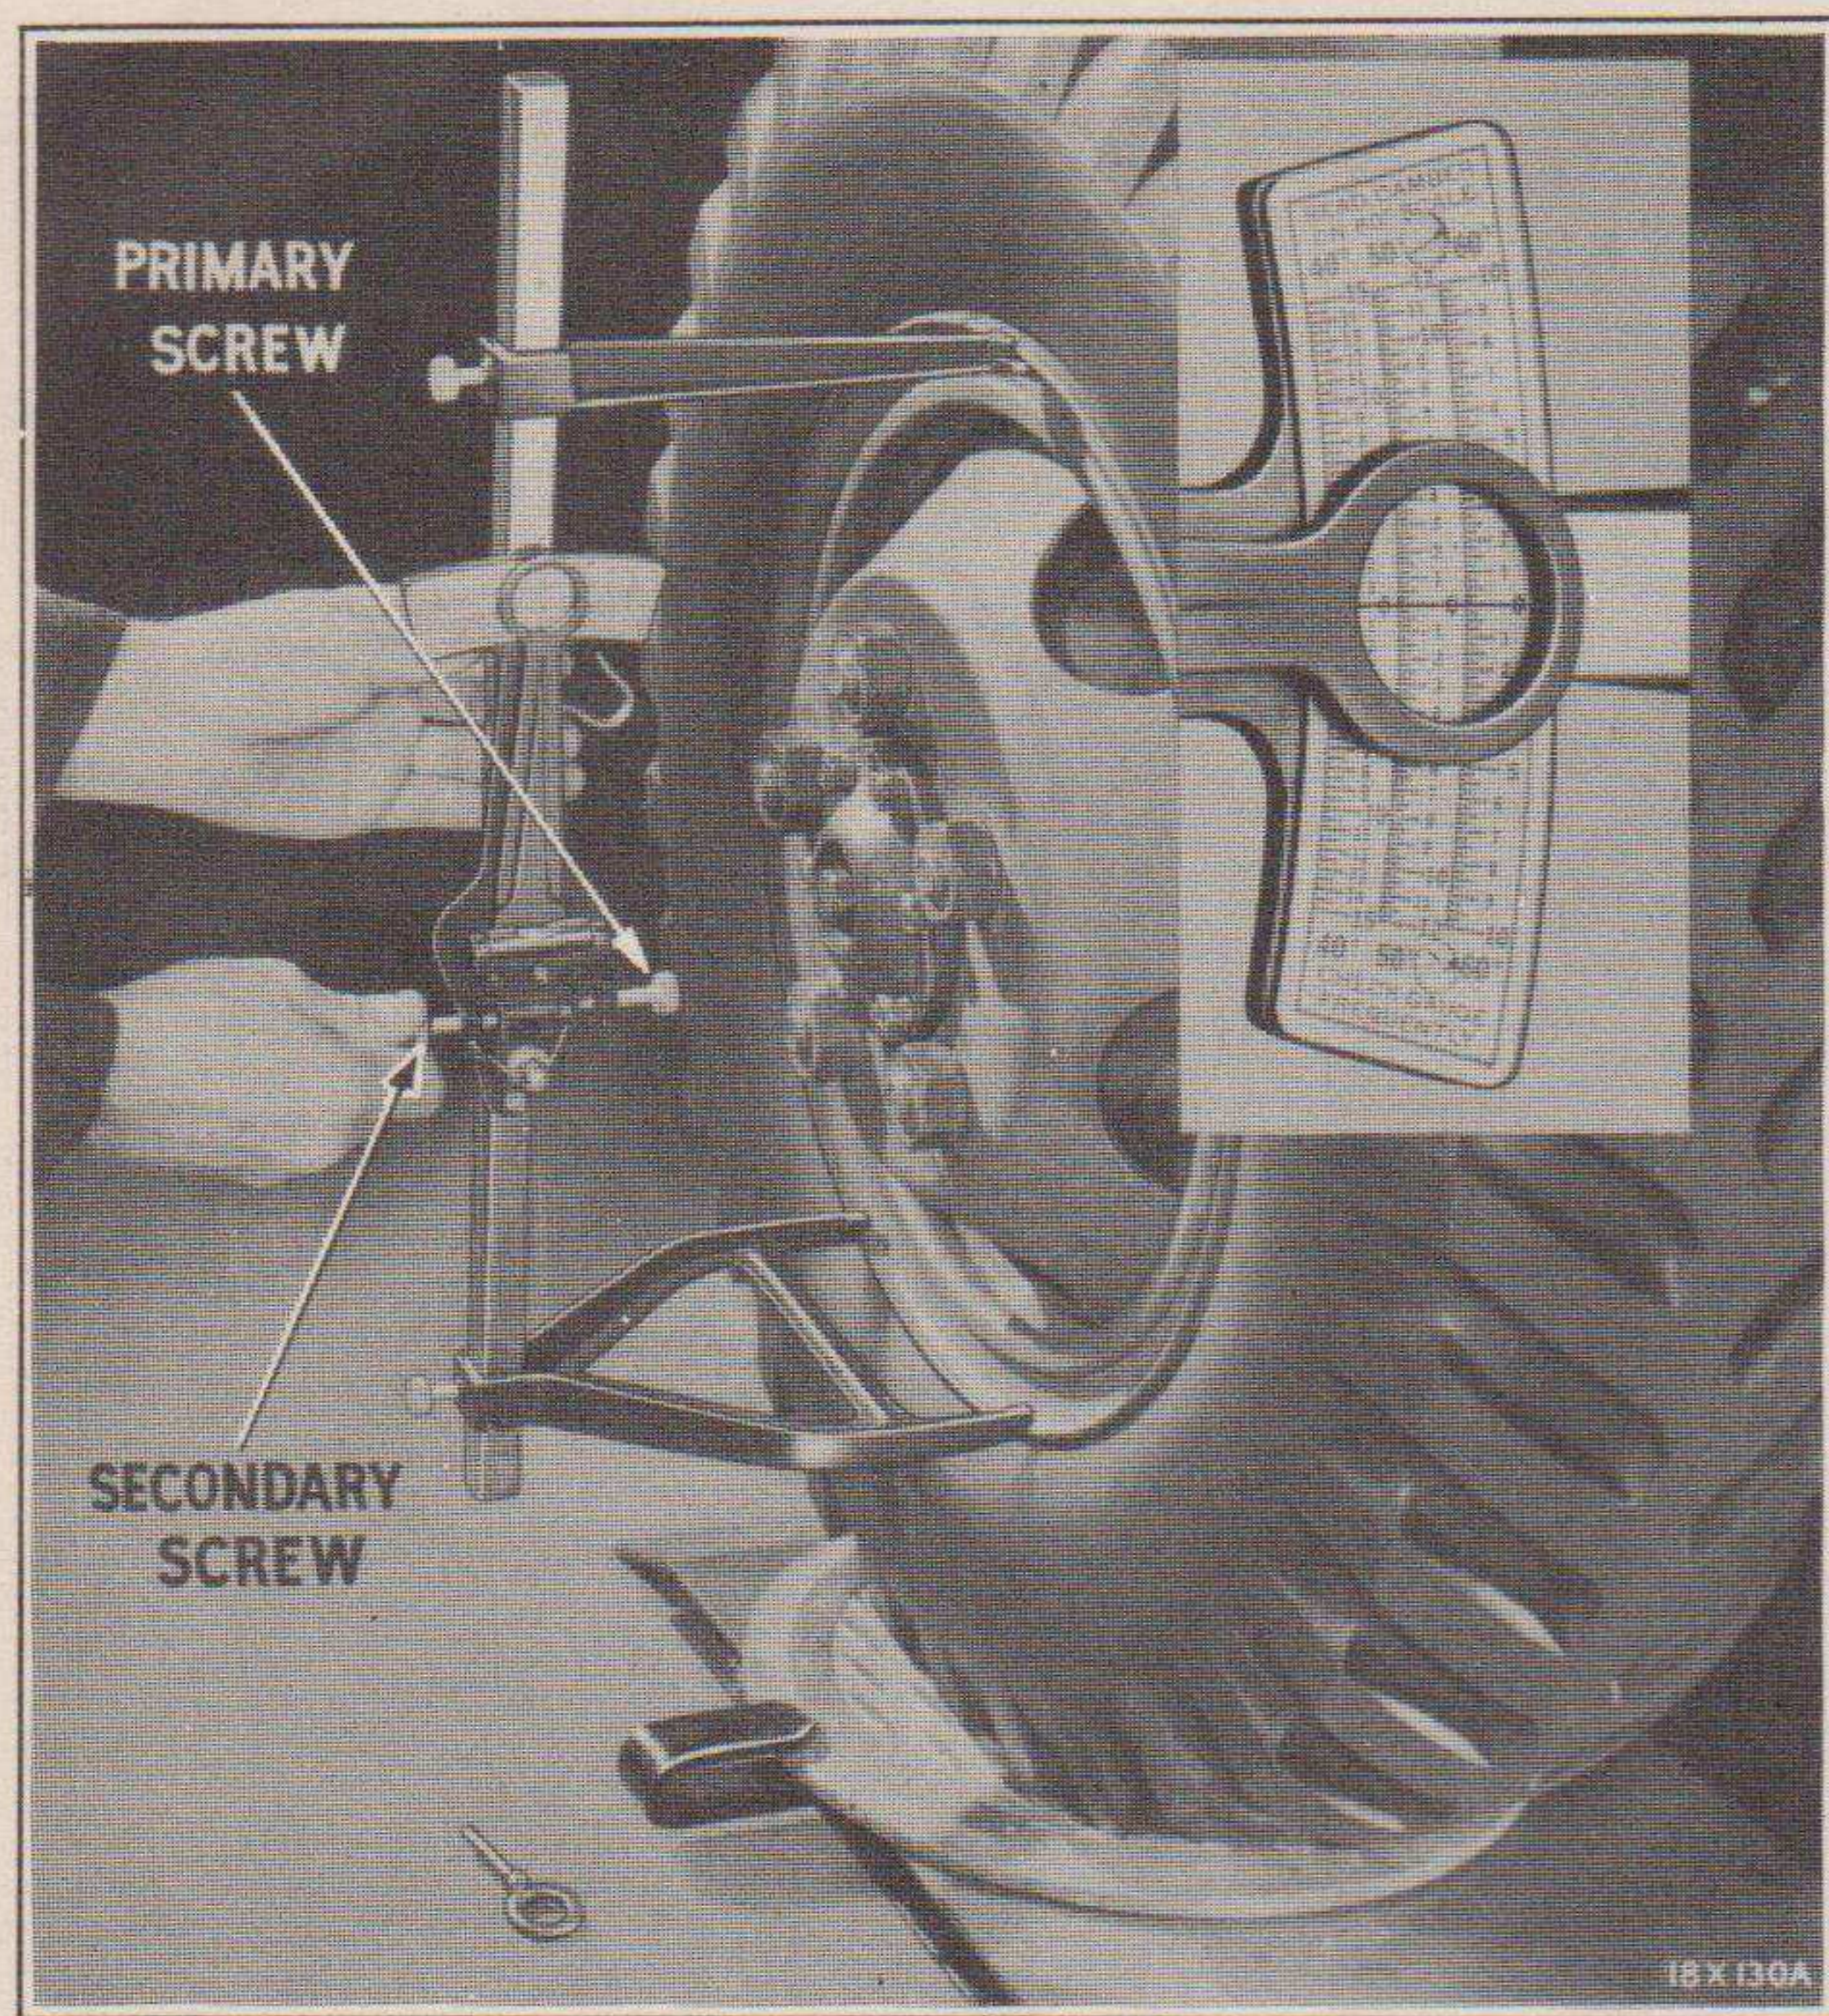

Fig. 42—Checking Camber (Tool DD-428)
When checking the king pin angle, use the 40 degree scale on the gauge if the wheels are turned 20 degrees each side of the straight-ahead position, or the 50 degree scale if the wheels are turned 25 degrees. See inset in Fig. 42 showing close-up view of scale on gauge.
- (b) Assemble the gauge in position against the wheel as shown in Fig. 42.
- (e) Take the camber reading in degrees on the scale. Use the 60 degree section of the scale on the quadrant assembly of the gauge for checking camber. See inset Fig. 42. If the wheel is not true (wobbles), turn it one-half revolution (180 degrees) and take another reading. Then average the two readings for the camber angle. Check the camber of both front wheels. Readings from zero toward the wheel indicates camber.